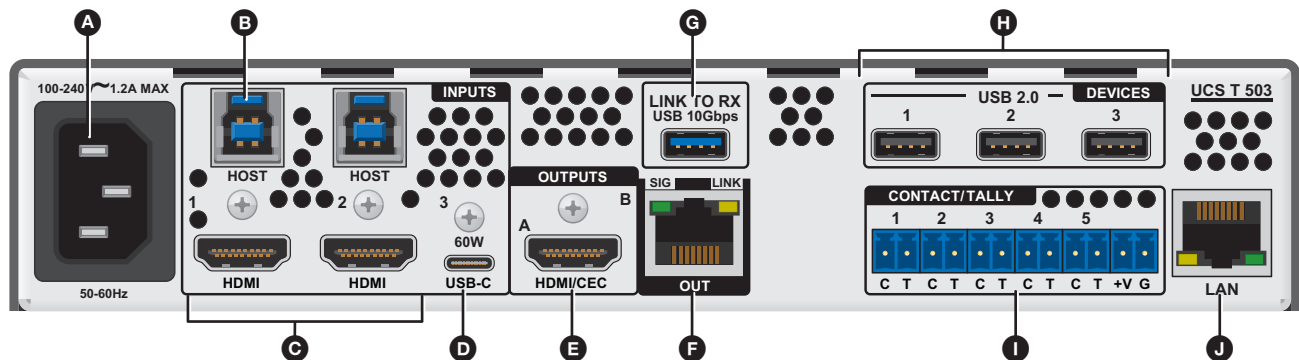
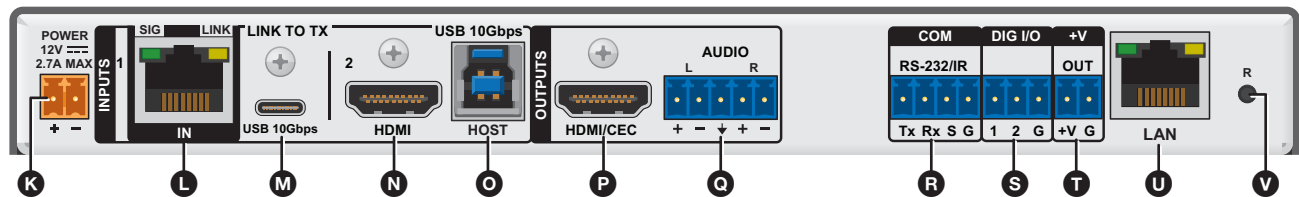

Figure 6. UCS T 503 Rear Panel
Figure 7. UCS SR 501 Rear Panel
Figure 6 shows the UCS T 503 rear panel and figure 7 shows the UCS SR 501 rear panel.
- G USB LINK TO RX** (see figure 6 on page 13) — Connect this USB port to the USB-C input port 1 labeled LINK TO TX on the receiver (figure 7, **M**, on page 13) using the Extron USBA-C ProMax Plenum extension cable (part number 26-758-xx) (see Transmitter-Receiver Interconnection on page 18). If the system does not need USB 3.2 extension, the USB A to C extension cable connecting the transmitter to the receiver does not need to be connected. This LINK TO RX port to the receiver is used to extend USB 3.2 data between the transmitter and receiver using Extron USBA-C ProMax optical extension cable.
- I CONTACT/TALLY ports** — Four 3.5 mm, 2-pole captive screw connectors for contact (C) and tally (T) connections. See Contact/Tally Ports on page 18 for information about wiring and use of these ports.
- K 12 VDC power input** (see figure 7 on page 13) — One 3.5 mm, 2-pole captive screw connector for connecting power to the receiver. The included 12 VDC external power supply must be connected to the receiver. It cannot be powered remotely from the transmitter.
- L Input TP port** (see figure 7 on page 13) — One female RJ-45 jack with integrated amber and green LEDs for twisted pair input.
- M USB-C LINK TO TX port** — Connect this USB port to the corresponding port on the transmitter (figure 6, **G** on page 13). See Transmitter-Receiver Interconnection on page 18.
Connect an AV device to the HDMI/CEC output port (see figure 6, E on page 13 for UCS T 503 or figure 7, P on page 13 for the UCS SR 501). Secure the HDMI connector to the UCS with a LockIt Plus Lacing Bracket (see the section below).